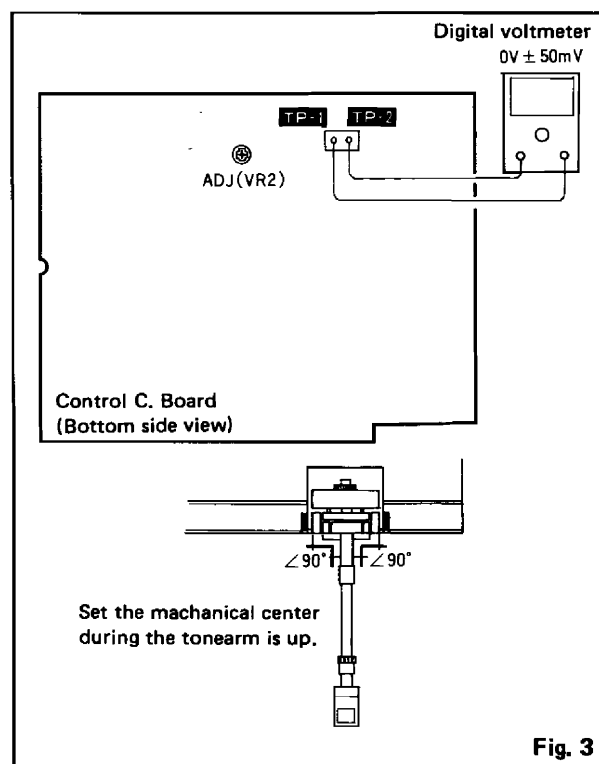

Fig. 3
- As in Fig. 3, set the tonearm mechanically at the center when it is in the raised position, turn the power switch to "ON".
- Connect a digital voltmeter or a similar test meter to the test points **TP1** and **TP2** in the control circuit board. And adjust the volume of VR2 (2.2 k ohms) to set at $0V \pm 50mV$ (see Fig. 3).